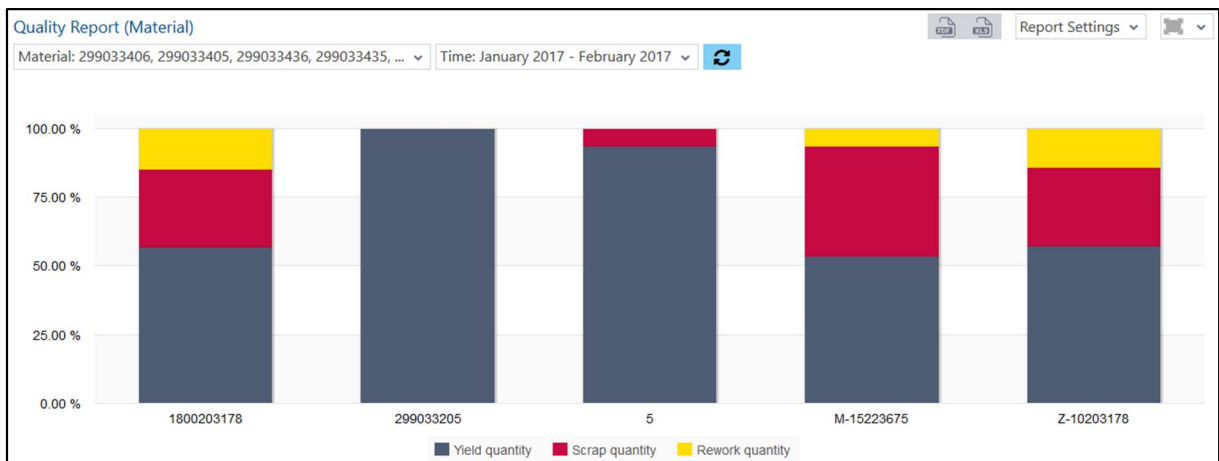

Fig. 107: Quality Report (Material) as a column chart
- Quality Report (Material) as a column chart (Fig. 107):